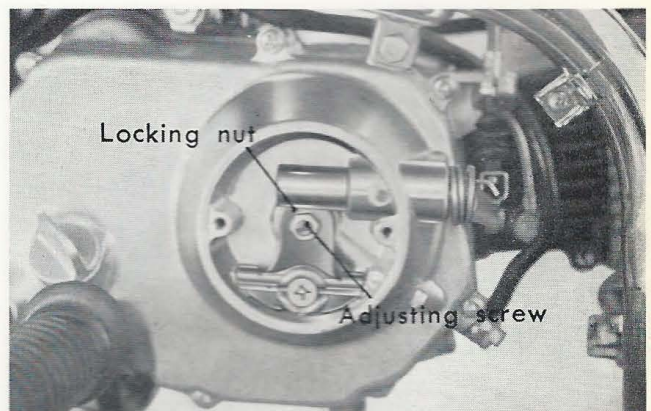

Figure 6-24. Adjusting the clutch (S50, S65)
(1) For model C50, C50M, C65 and C65M check for slippage of the clutch and the disengaging action.
(2) For adjusting the clutch on model S50, S65 remove the clutch cover, loosen the locking nut and adjust with the screw. (Fig. 6.24)